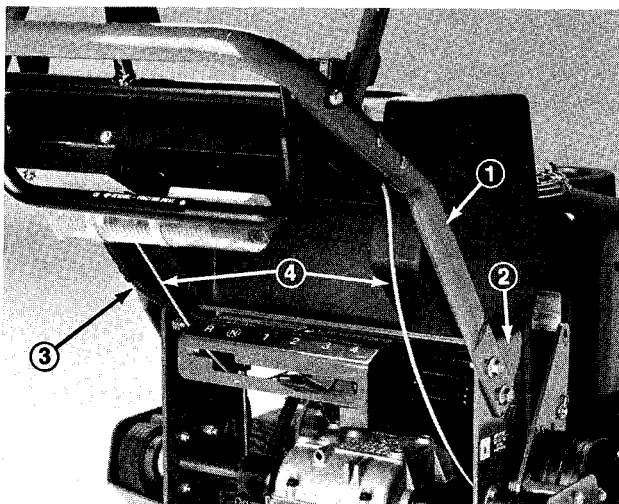

Figure 4
1. Align upper handle mounting holes with desired mounting holes in frame (upper or lower set of holes) and secure each side with (2) 3/8 -16 x 1" lg. flange capscrews and flange nuts. Torque capscrews to 23-27 ft.-lbs. Route cables and wire harness inside of frame (Fig. 4).